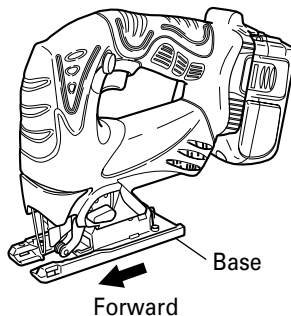

Fig. 16
- (2) Move the base fully forward (Fig. 16), and tighten the base bolt again.